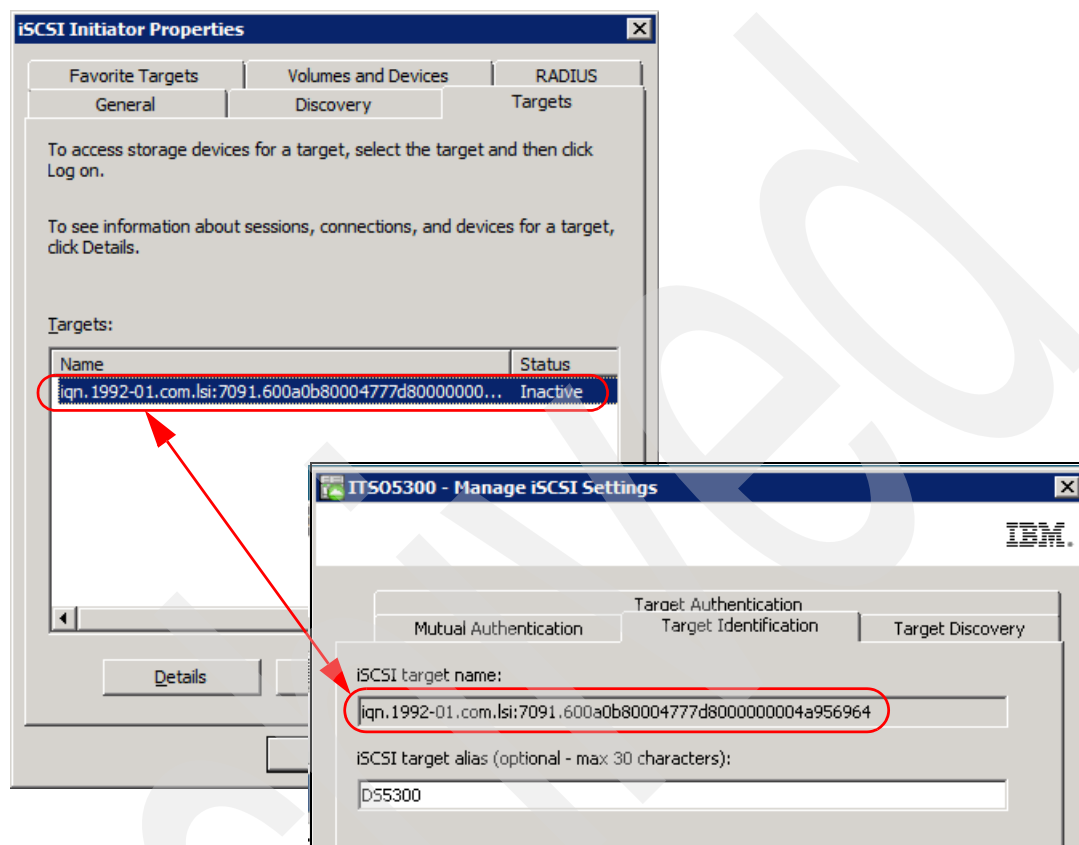

Figure 3-30 Target Identification
6. After adding the target IP in the Discovery tab, select the Target view. Here, you can see the target name or IQN of your DS Storage System discovered. Because you might have various storage systems, it is important to identify the right one. Check it by selecting from your Storage Subsystem Manager window, **Storage Subsystem** → **iSCSI** → **Manage Settings**. Both windows are shown in Figure 3-30.